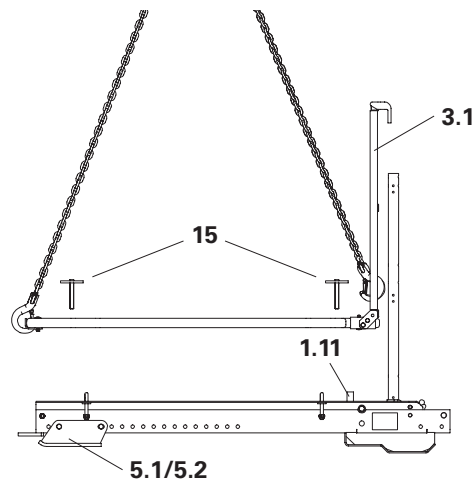

Fig. A3.03
1. Open the intermediate platform handrail frame (3.1) and attach the intermediate platform (3) to the 3-sling lifting gear.
2. Place Folding Platform Bracket FB 180-3 (5) on a level surface with guardrail post folded out, and position the intermediate platform (3) on it with the crane.
3. Bolt the intermediate platform (3) into the multi-purpose connectors (1.11) of the folding platform bracket with 2 Screw Plates DW 15/115 (15). (Fig. A3.03)